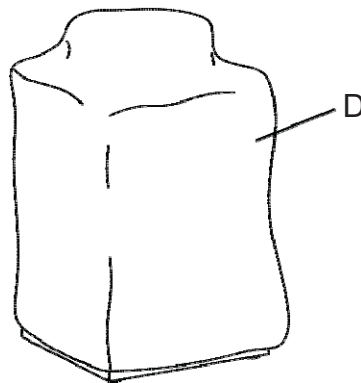

Figure 5
8. Cover the fire pit with the outdoor weather cover (D) when not in use to protect it from the elements or when fire pit is cool COMPLETELY after the use (see Figure 5).